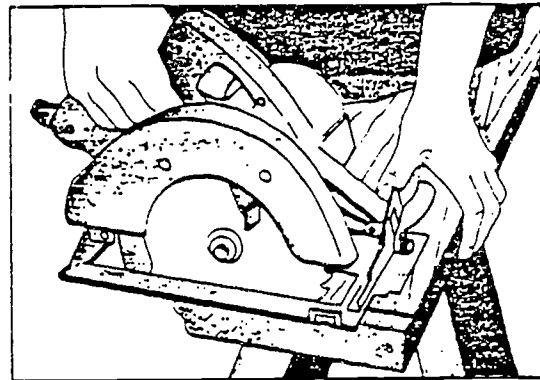

Fig. 41-4. Crosscutting with the portable electric handsaw.
7. Guide the saw slowly but steadily on the waste side of the marked line (Fig. 41-4), or use the guide if you are ripping (Fig.